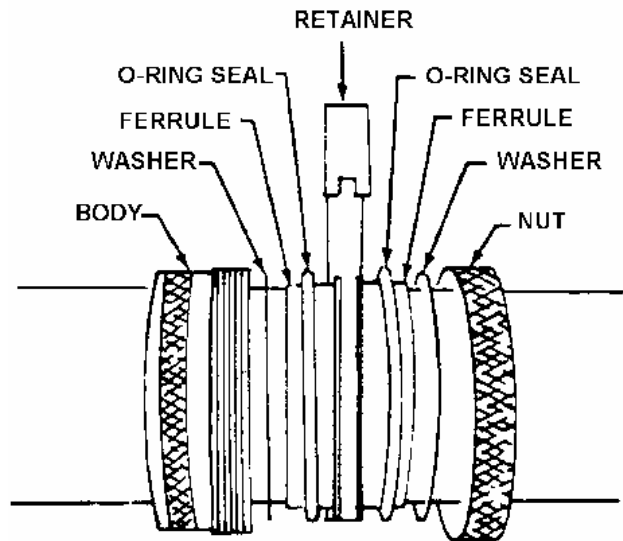

Figure 9. Wig-O-Flex Connector, Type 6300 Series
14. **Installation Procedures.** To install a fitting 6300 or 3600 series (Figure 9 and 10), proceed as follows: